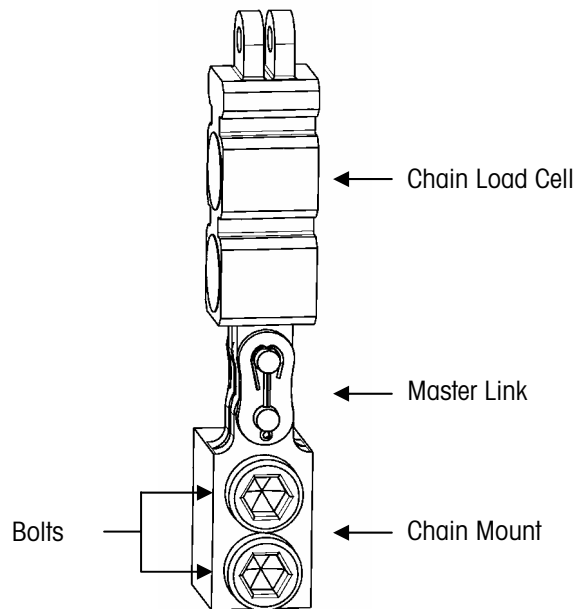

Figure 6-10: Chain Mount Assembly
11. Remove the two bolts that secure the chain mount to the carriage. Then remove the entire assembly (chain mount, load cell, and chain) from the carriage (see Figure 6-10).
3. Bolt the chain mount to the carriage, using the two bolts that were removed earlier (see Figure 6-10). Torque all three bolts to 216 ft-lb (or 120% of the prescribed torque value). Loosen all three bolts so that all torque is relieved. Retighten all bolts to the prescribed torque of 180 ft-lb. The application of a medium-grade thread locker is acceptable.